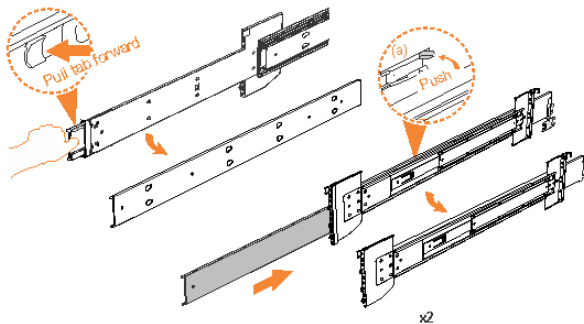

Figure 50. Detaching the inner rail section
3. Remove the inner member of the rail. Push the tab (a) and slide the middle rail member back, as shown in Figure 50 on page 81.